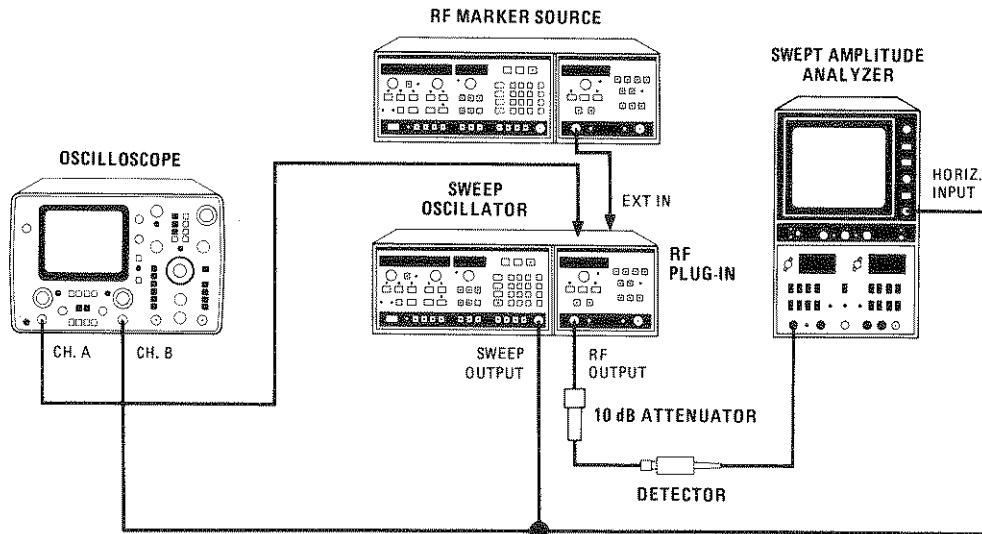

Figure 5-44. External Marker Adjustments Test Setup
1. Connect equipment as shown in Figure 5-44. Set external marker source to a selected marker frequency. Set power level between -10 and $+10$ dBm.